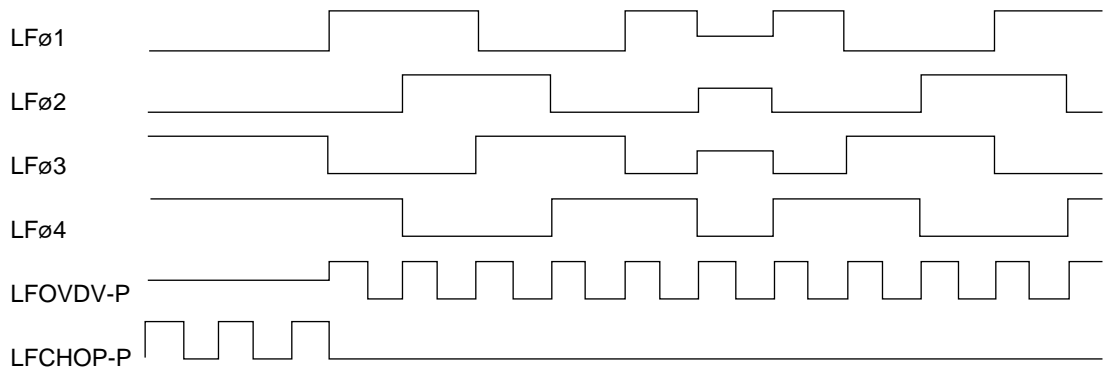

Figure 2.15
2.2.2 Spacing operation (See Figure.2-15)